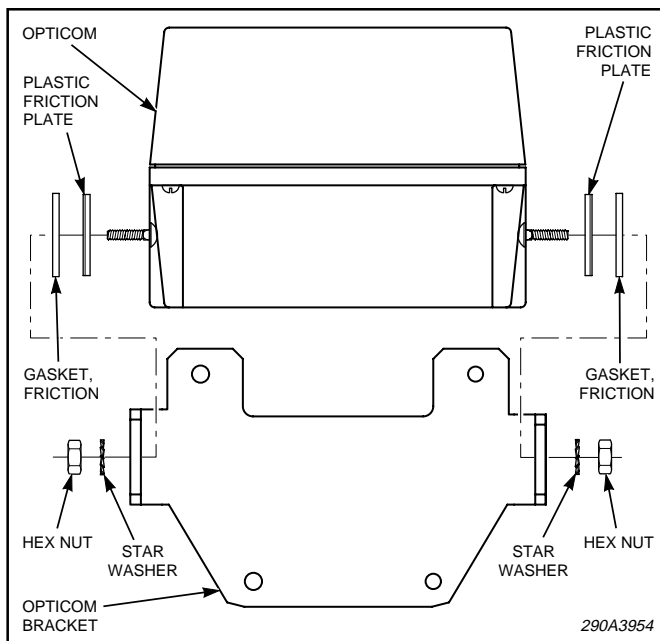

Figure 2.
4. Attach the friction gasket to the friction plate as shown in figure 2.
5. See figure 2. Install the user-supplied emitter and complete the electrical connections as described in the instructions provided with the emitter.